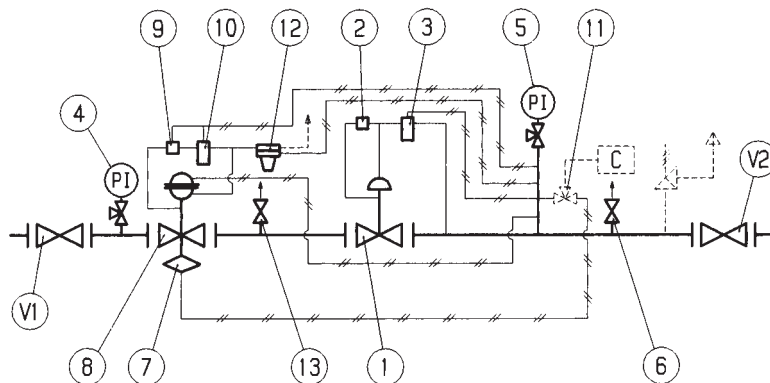

Fig. 27
5.6 MESSA IN SERVIZIO REGOLATORE APERFLUX 851 PIÙ MONITOR IN LINEA REFLUX 819 CON VALVOLA DI BLOCCO INCORPORATA SB/82 E VALVOLA ACCELERATRICE (FIG. 27)
5.6 COMMISSIONING THE REGULATOR APERFULX 851 WITH REFLUX 819 IN-LINE MONITOR WITH INCORP. SB/82 SLAM-SHUT AND ACCELERATING VALVE (FIG. 27)
5.6 INBETRIEBNAHME DES REGLERS MIT IN REIHE GESCHALTETEM APERFLUX 851 MONITORREGLER REFLUX 819 MIT INTEGRIERTEM SAV SB/82 UND SCHLISSBESCHLEUNIGER (FIG. 27)
5.6 MISE EN SERVICE DU DÉTENDUEUR APERFLUX 851 ET MONITOR EN LIGNE REFLUX 819, AVEC VANNE DE SÉCURITÉ INCORPORÉE SB/82 ET VANNE D'ACCÉLÉRATION (FIG. 27)
5.6 PUESTA EN SERVICIO DEL REGULADOR APERFLUX 851 CON MONITOR EN LÍNEA REFLUX 819 VÁLVULA DE SEGURIDAD INCORPORADA SB/82 Y VÁLVULA ACELERADORA (FIG. 27)
5.6 ATIVAÇÃO DO REGULADOR APERFLUX 851 COM MONITOR EM LINHA REFLUX 819 COM VÁLVULA DE BLOQUEIO INCORPORADA SB/82 E VÁLVULA ACELERADORA (FIG. 27)